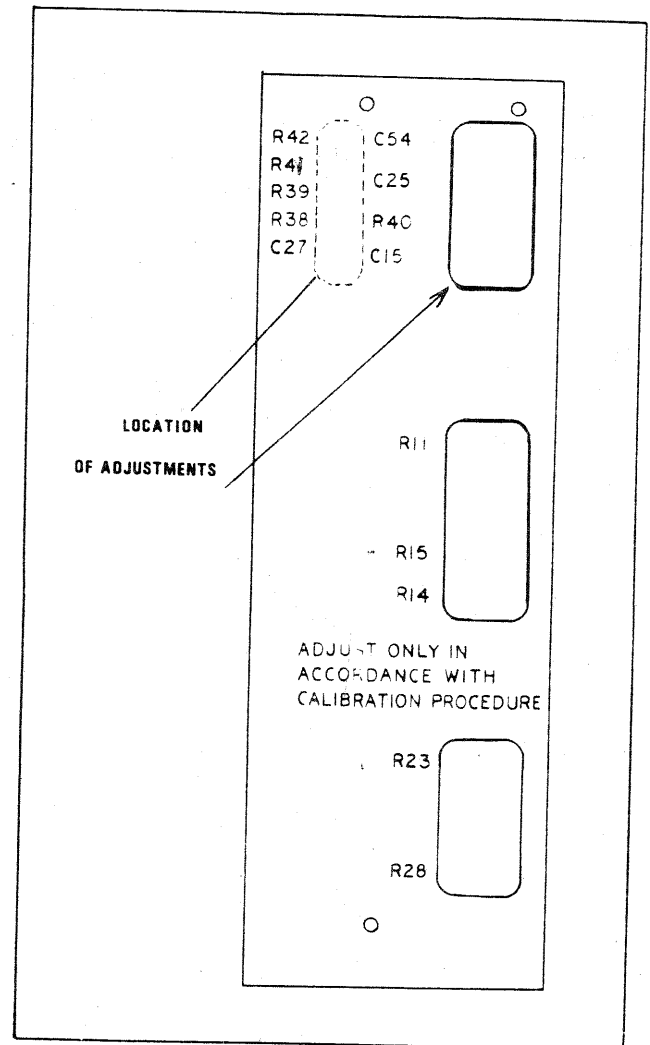

Fig. 3-1. Access to Calibration adjustments
3.4 ACCESS TO CALIBRATION ADJUSTMENTS (FIG. 3-1)